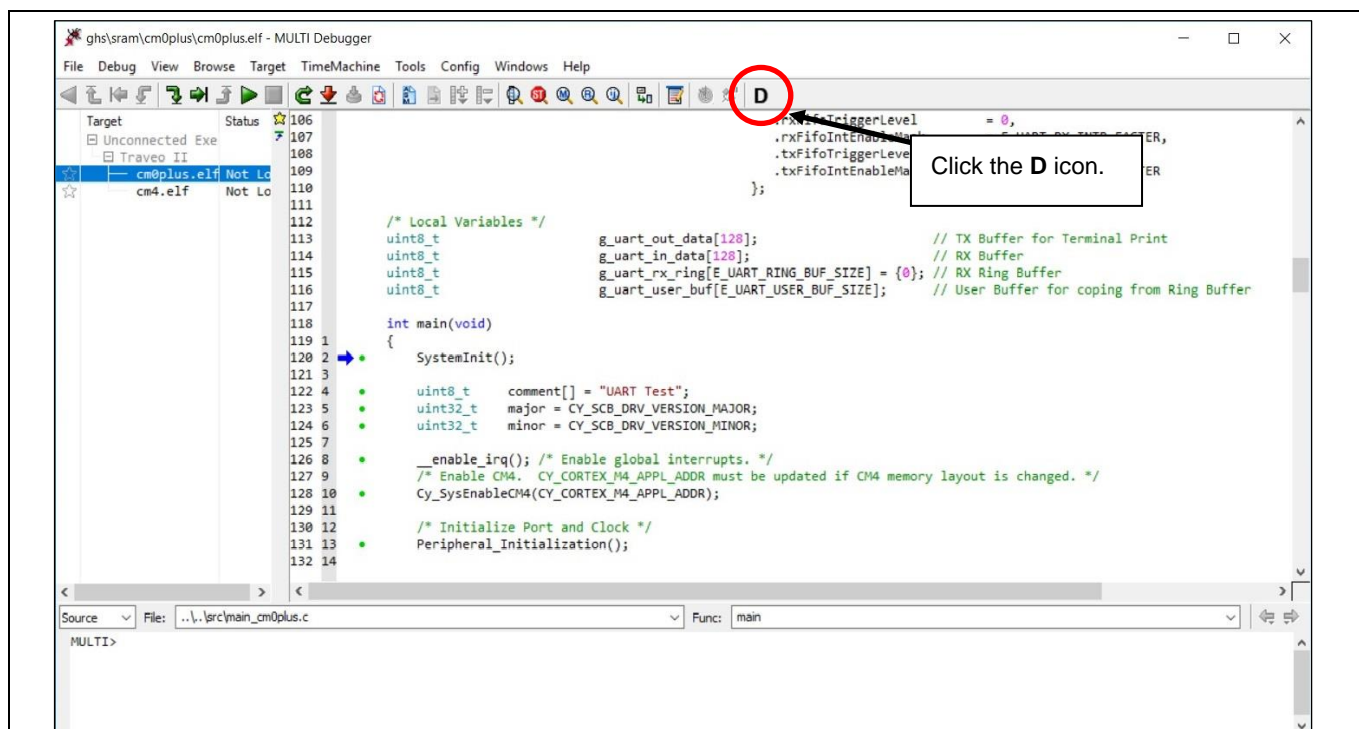

Figure 11 Debug the project of SDL project
- To enable the SDL project to detect the debugger script, click the **D** icon as shown in **Figure 11**.